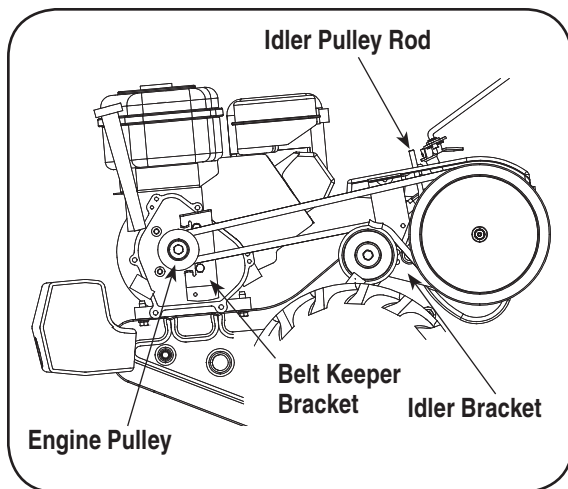

Figure 8-1
- Remove the belt keeper bracket located behind the engine pulley by removing two hex bolts and lock washers. See Figure 8-1.
NOTE: Upon reassembly, make certain the belt is routed over the idler pulley and inside of belt keepers by engine pulley. See Figure 8-1.